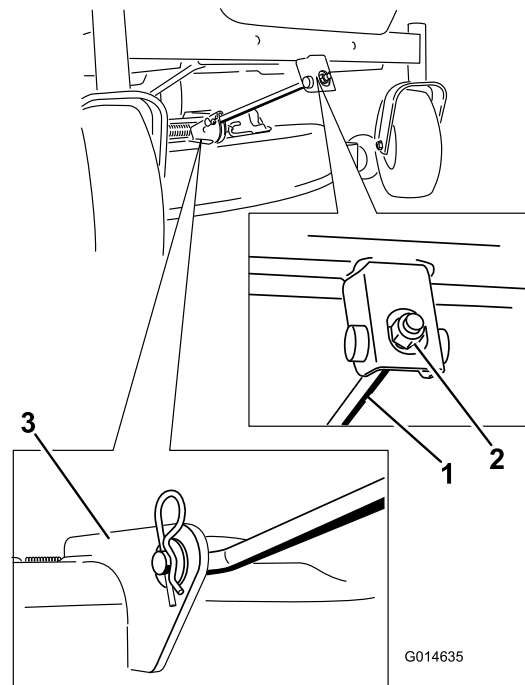

Figure 65
4. Remove the hairpin cotter from the front support rod, and remove the rod from the deck bracket (Figure 65).
- Attach the front support rod to the mower deck with the clevis pin and hairpin cotter (Figure 65).